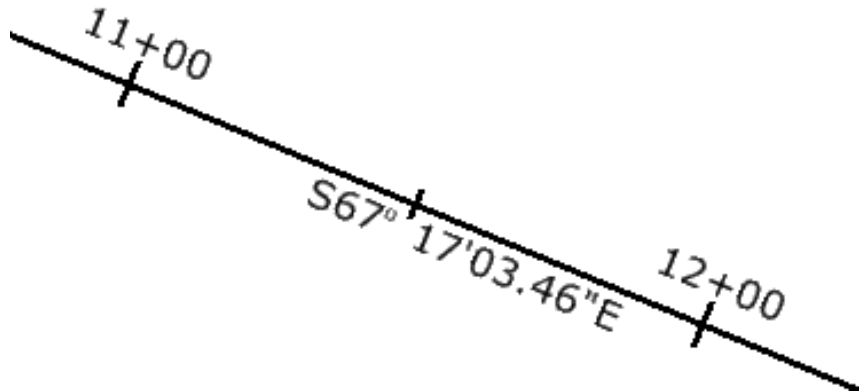

Figure 4-9 MicroStation View of InRoads Generated Bearings
- C. Click **Apply** to add the bearings and Click **Close**. Figure 4-9 shows the InRoads generated bearing.